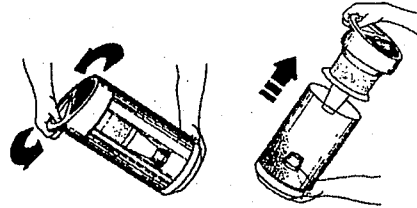

Figure 15a
8. Hold the Grip Area at the bottom of the Collection Bin with one hand. (See Figure 15a.)
9. With your other hand, turn the Handle attached to the Collection Bin Cover a quarter turn counter-clockwise to the UNLOCKED position. (See Figure 15a.)
10. Separate the Collection Bin Cover from the Collection Bin. (See Figure 15a.)